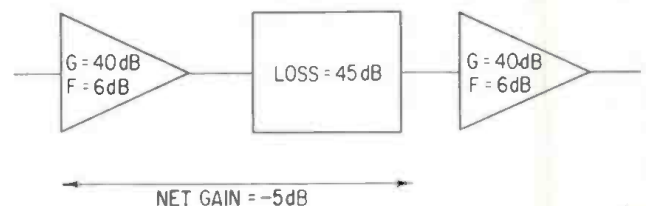

Figure 3. Here are the effects of the noise figure of the booster amplifier. Using equation (18) $F_s = 13.5$ and $F_s(\text{dB}) = 11.3$ dB.
At the bottom of FIGURE 2, we have shown the same system but this time we are interested in the way that the ultimate noise proceeds through the console. We have assumed a 20 kHz bandwidth so that the ultimate noise is -131 dBm at the microphone. The next block is labeled "Noise Figure" and this deserves comment. It will be recalled that the noise figure of the preamplifier and the booster amplifier were given as 6 dB each (a respectable value). It will be noted that the combined losses of the fader control and the mixer network add to 45 dB which is greater than the transducer gain of the pre-amplifier. Thus the signal emerging from the mixer network (top of FIGURE 2) is 5 dB less than mic level; and the noise (bottom diagram) is now back in the region of the ultimate noise. It is necessary, therefore to consider the effects of the noise figure of the booster amplifier. This is done as is shown in FIGURE 3. Here we apply the formula of equation (18) covering the system noise figure produced by two amplifiers in cascade. From the mathematics of FIGURE 3, it will be seen that the effects of the 45-dB loss in the fader and mixer are to increase the system noise figure to 11.3 dB from the original 6 dB of the first amplifier. The balloons on the noise diagram give the noise levels throughout the console, with the output noise being -51.7 dBm and a signal/noise ratio of 59.7 dB. The equivalent input noise is -119.7 dBm.